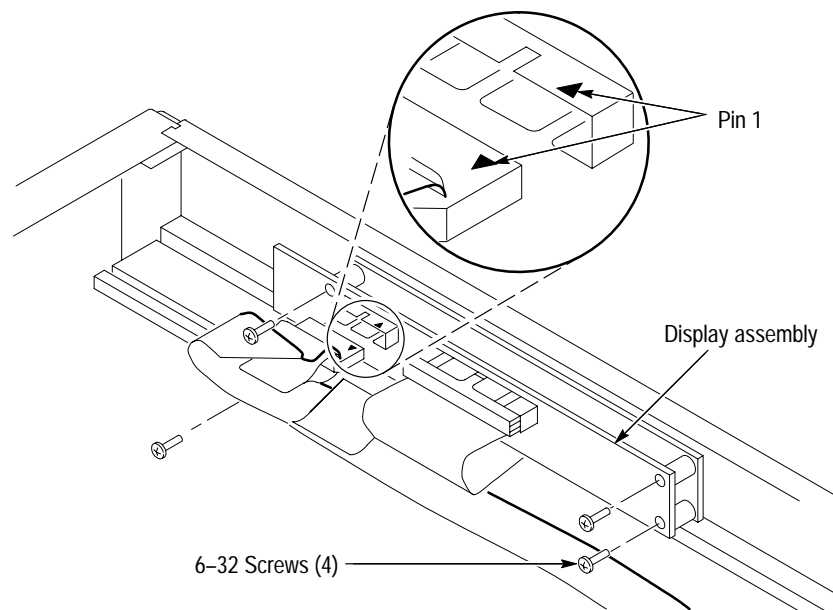

Figure 8-13: Removing the front panel monitor display
2. Refer to Figure 8-13 and disconnect the ribbon cable from the rear of the Display assembly.
When you reconnect the ribbon cable to the Display assembly, observe the orientation of Pin 1 as shown in Figure 8-13.